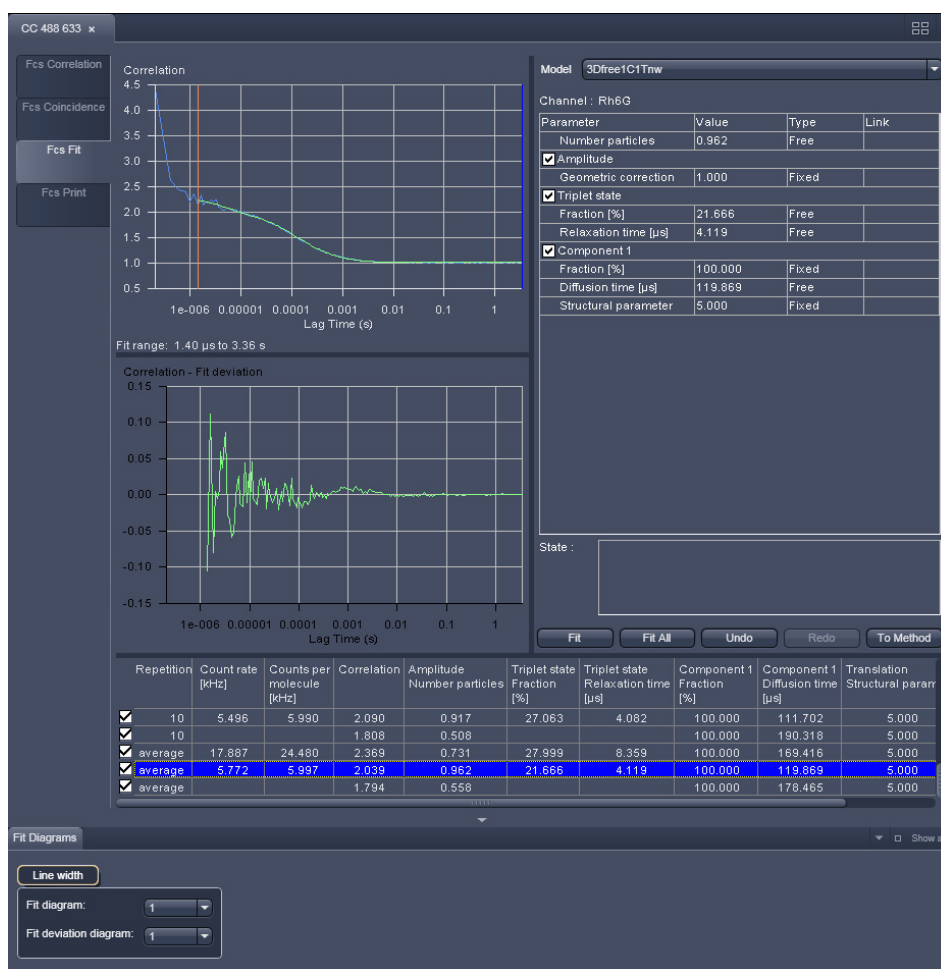

Fig. 9-101 FCS Fit diagram panel for correlation analysis
- Click on the **FCS Fit** tab to activate the **Fit** display mode (Fig. 9-101).